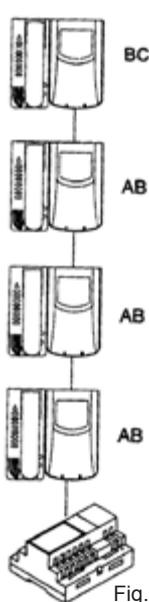

Fig. 1
in systems with multiple devices (interphones or monitors) connected in series. Move the jumper of the last device only to position BC and keep the other jumpers in the initial position (AB) (Fig. 1).